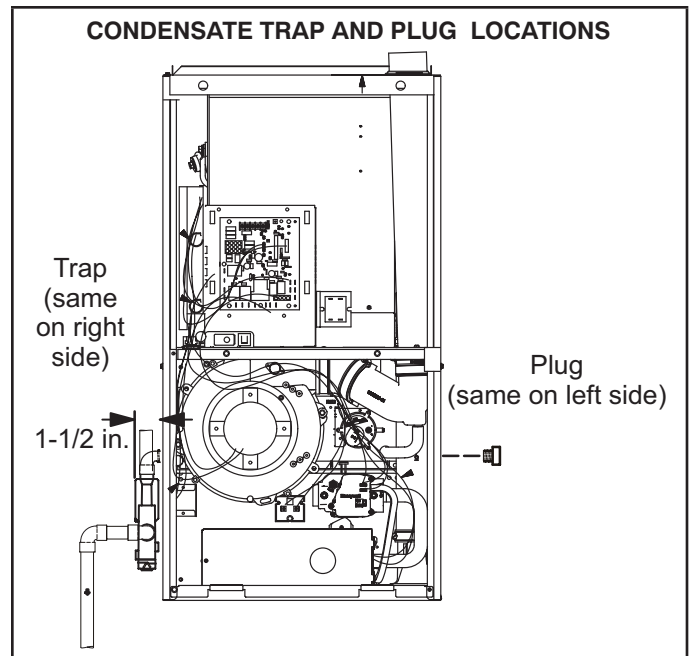
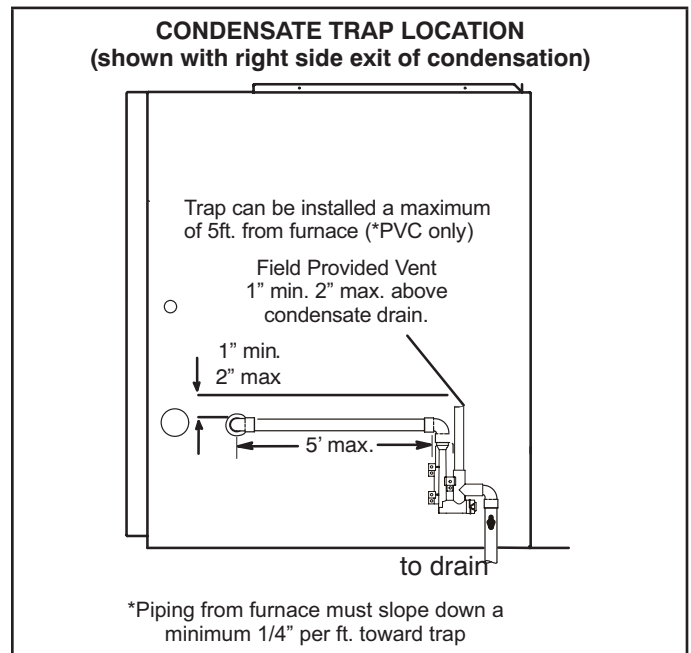

FIGURE 44
FIGURE 45
This unit is designed for either right- or left-side exit of condensate piping. Refer to FIGURE 44 and FIGURE 45 for condensate trap locations.
- 2 - Use a large flat head screw driver or a 1/2" drive socket extension and remove plug (FIGURE 44) from the cold end header box at the appropriate location on the side of the unit. Install provided 3/4 NPT street elbow fitting into cold end header box. Use Teflon tape or appropriate pipe dope.